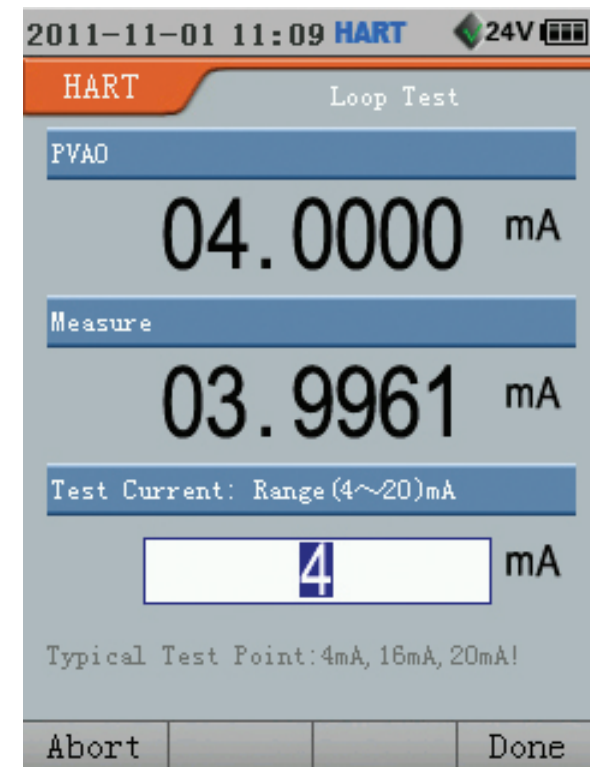

Figure 11.7 HART Loop Test
1. In the HART diagnostic and service interface, choose Loop Test from list, and press **Enter** or **Select** to show Loop Test interface (Figure 11.7).